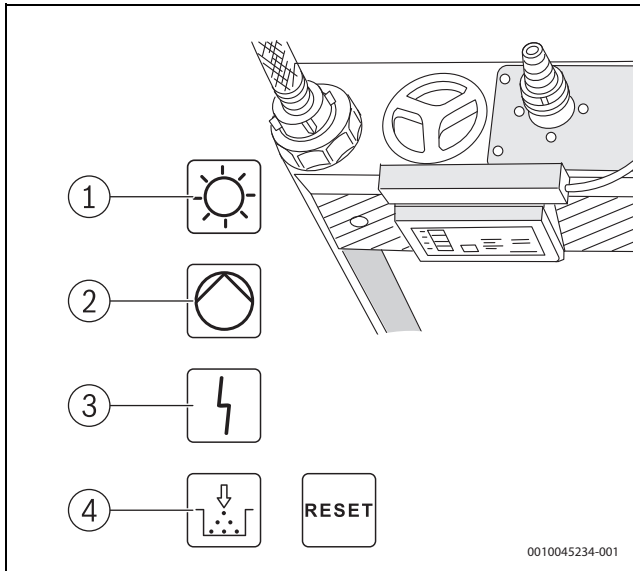

Fig. 7 Indicator lamps
- ▶ Check indicator lamps on display (→ Figure 7).
Faults are indicated by the “Fault” indicator lamp(→ Figure 7, page 7).